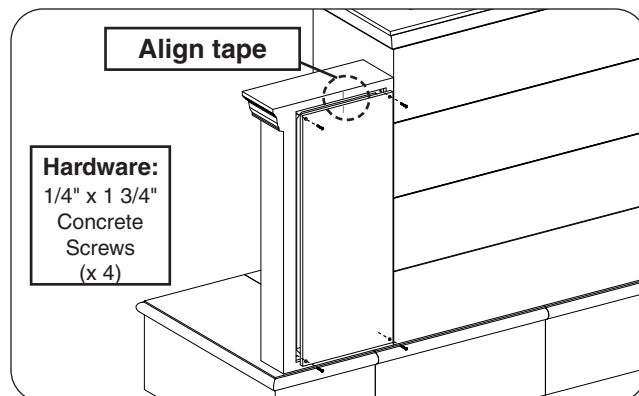

Fig. 24-2 Assemble rear side-wall (skip if n/a)
2. Each rear side-wall piece is marked with tape for proper alignment. Place the correct rear side-wall piece in position against the rear of the main piece, then fasten using a Phillips screwdriver and the supplied concrete screws (see Fig. 24-2).